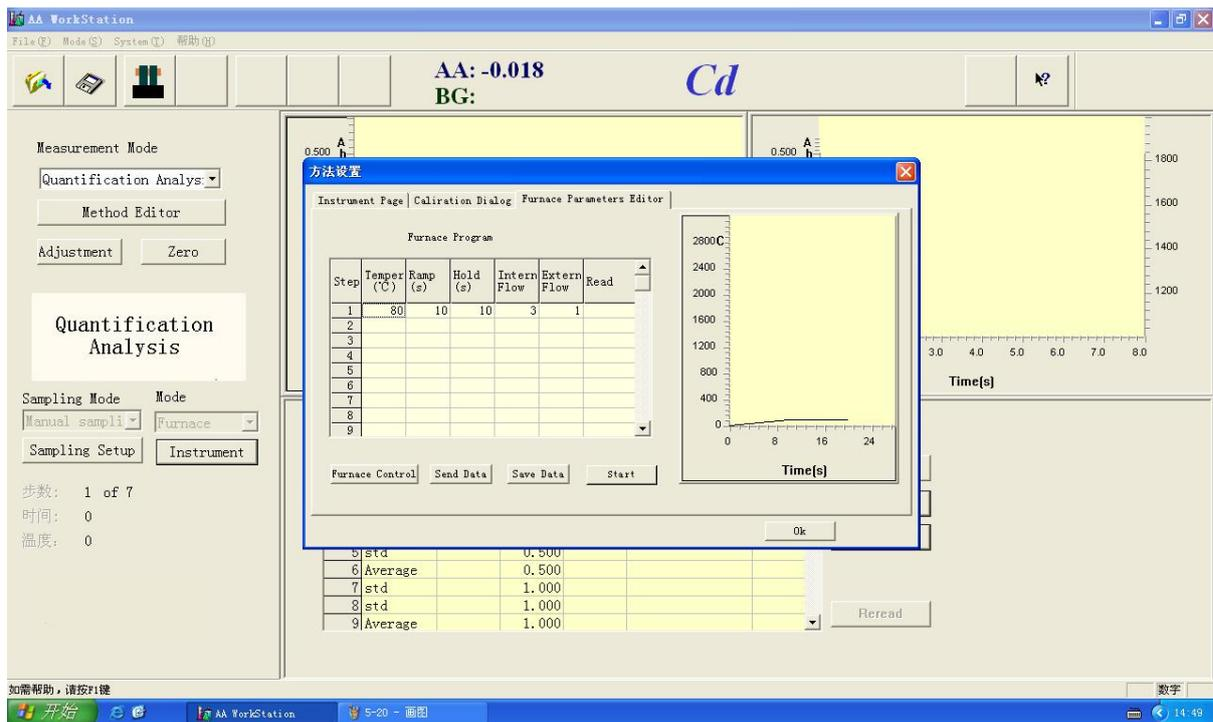

Figure 5-40
8. Input the program, such as input the No.1 program, see Figure 5-40